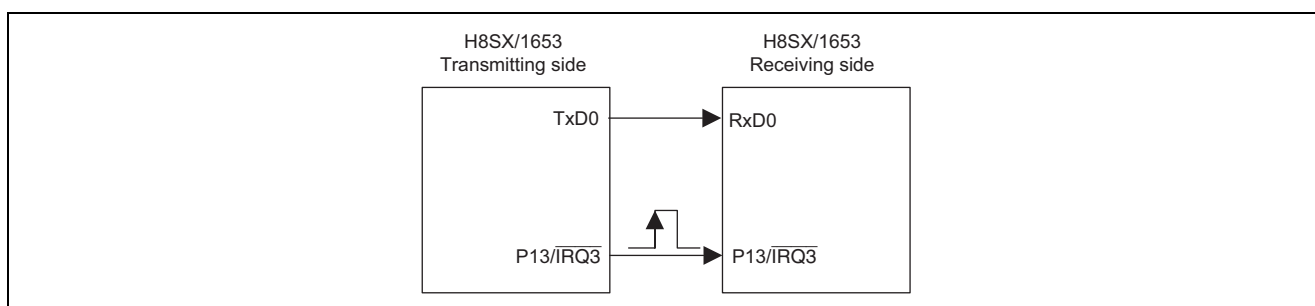

Figure 1 Asynchronous Serial Reception
- An example of connection for this sample task is shown in figure 1.